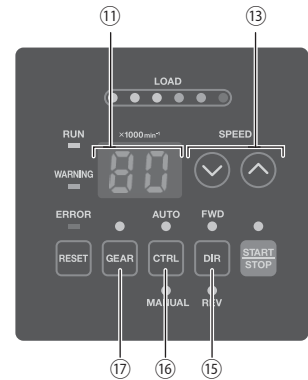

Fig. 26
- The Air input joint ⑦, is designed to accept cooling air between 0.25 - 0.3MPa (36.3 - 43.5psi). If the air pressure is too low, the CONTROLLER will not operate and an Error code will be generated.
- The cooling air also provides air purge protection to the motor spindle. If the Main Power Switch ⑨ is turned OFF, the cooling air will continue to flow. When using the CONTROLLER and SELECTOR without supplying cooling air, change setting parameter " $\text{P}7$ Setting Air Input Monitoring Override" to ON. Never spray coolant directly on the spindle body without an air purge.
- When using the SELECTOR, do not use Air input Joint ⑦ nor Air Output Joint ⑧ of the CONTROLLER. Install the provided Air Plug ((ϕ 6) for air stop) for safety and dust proofing to Air Input Joint ⑦ and Air Output Joint ⑧. The Air Input can be directly connected to the SELECTOR.
- Attach the provided Connector Cover for safety and dust proofing when not using the External Input / Output Connector A ③, B ④, or Serial I/F Connector ⑤ of the CONTROLLER.
15 - 1 Select Control Mode (MANUAL / AUTO). (Select the Control Button (CTRL) ⑯ of the Fig. 26.)
- (1) Using the Control Button (CTRL) ⑯ you can select between Manual (Front panel control) or Auto (External Signal Source) modes. External Signal Source can be used to control Motor Start / Stop, Rotation Direction, Motor Speed etc. From an external control source (CNC).
- (2) When operating from an External Signal Source, push the Control Button (CTRL) ⑯ of Fig .26 and select AUTO. The AUTO RED will illuminate.
- (1) Set Motor Rotating Direction (Set the Rotation Direction Button (DIR) ⑮ of the Fig. 26.)
- (2) Set 500 min⁻¹ (rpm) Centering Rotation (Set the Motor Speed Adjustment Button (SPEED ⬆️, ⬇️) ⑬ of the Fig. 26.)
- (3) Setting Gear Ratio (Set the Gear Mode Select Button (GEAR) ⑰ of the Fig. 26.)